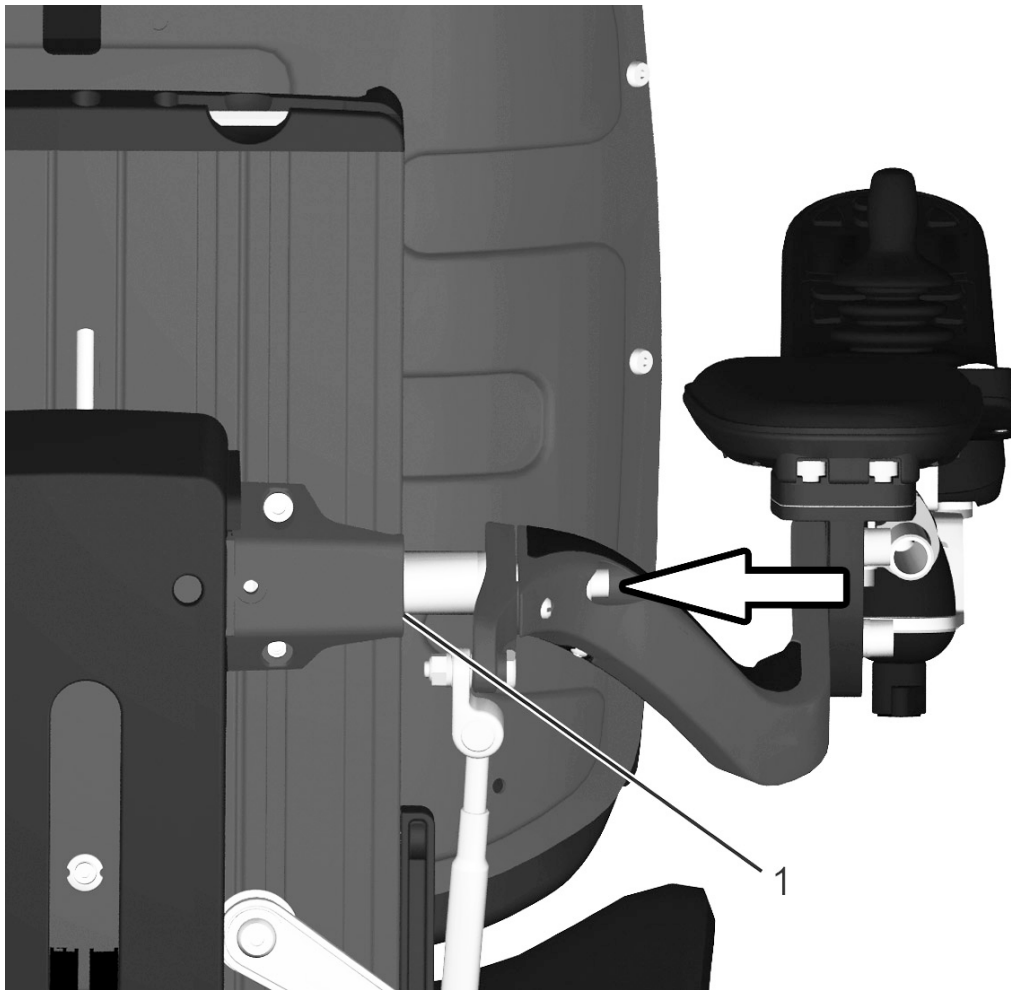

Figure 256. The armrest width is fixed using one screw.
1. Loosen the screw for armrest width adjustment approximately 3 turns. See fig. 256.